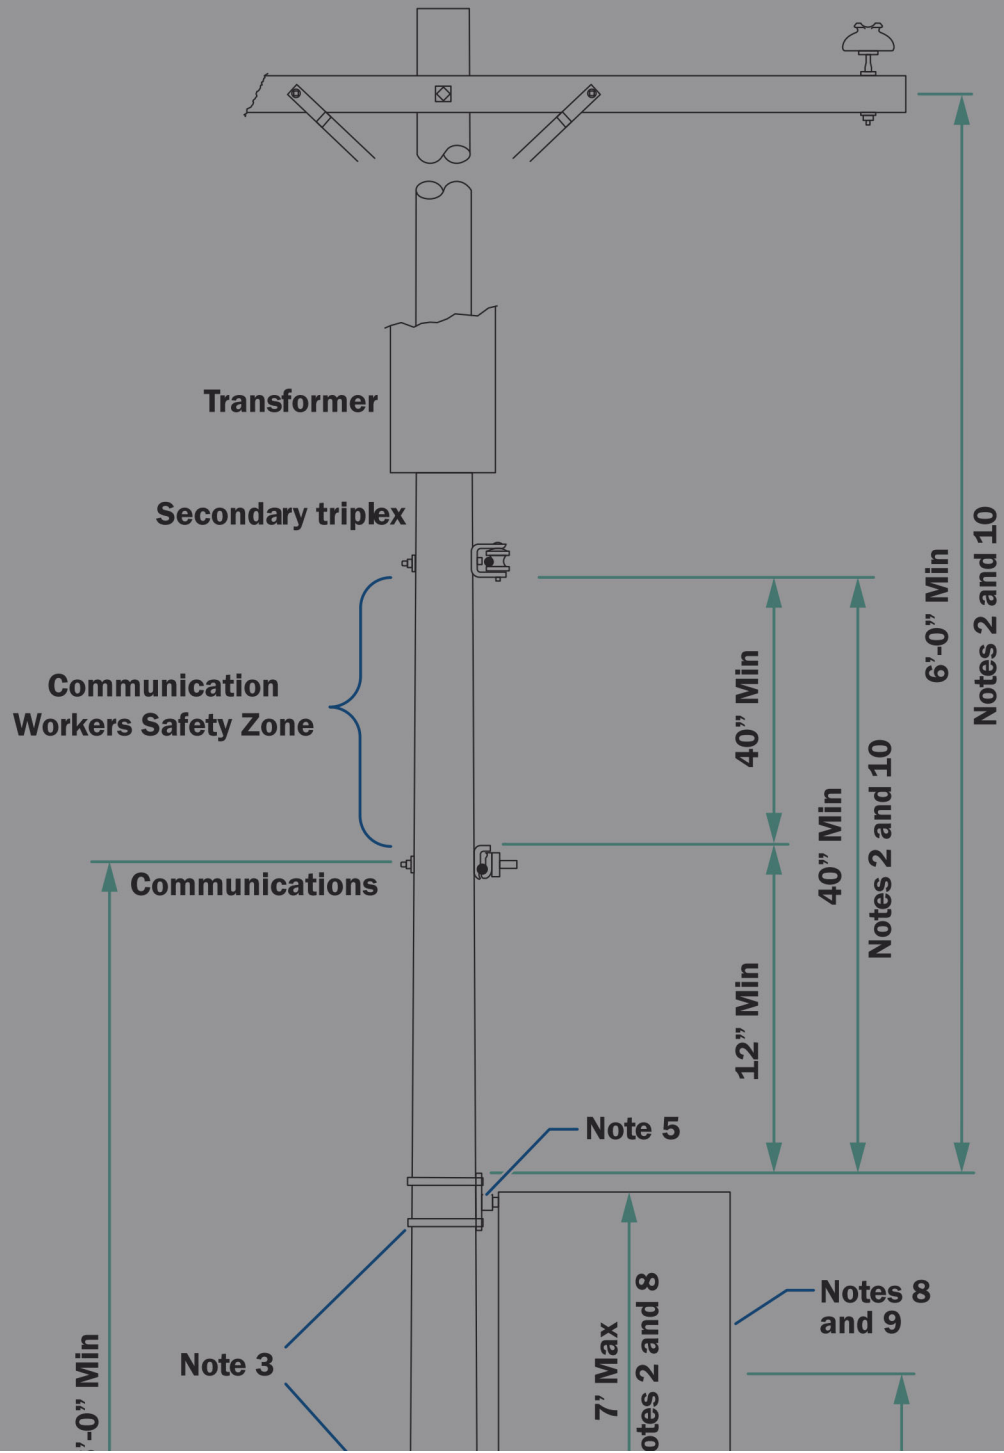

FIGURE 43-15-2 Vertical Banners Installed on Company Poles
- Vertical banners are small banners suspended vertically between flexible supports on a single pole. They may be mounted symmetrically or to one side, see figure 43-15-2.
9. To reduce wind load, banner(s) must be oriented 90° to the tangent spans as shown in figure 43-15-2.